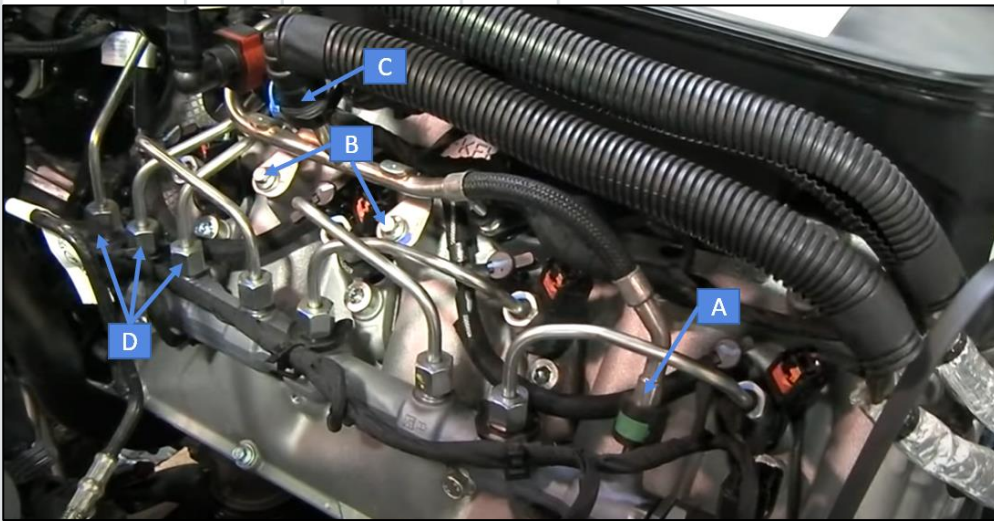
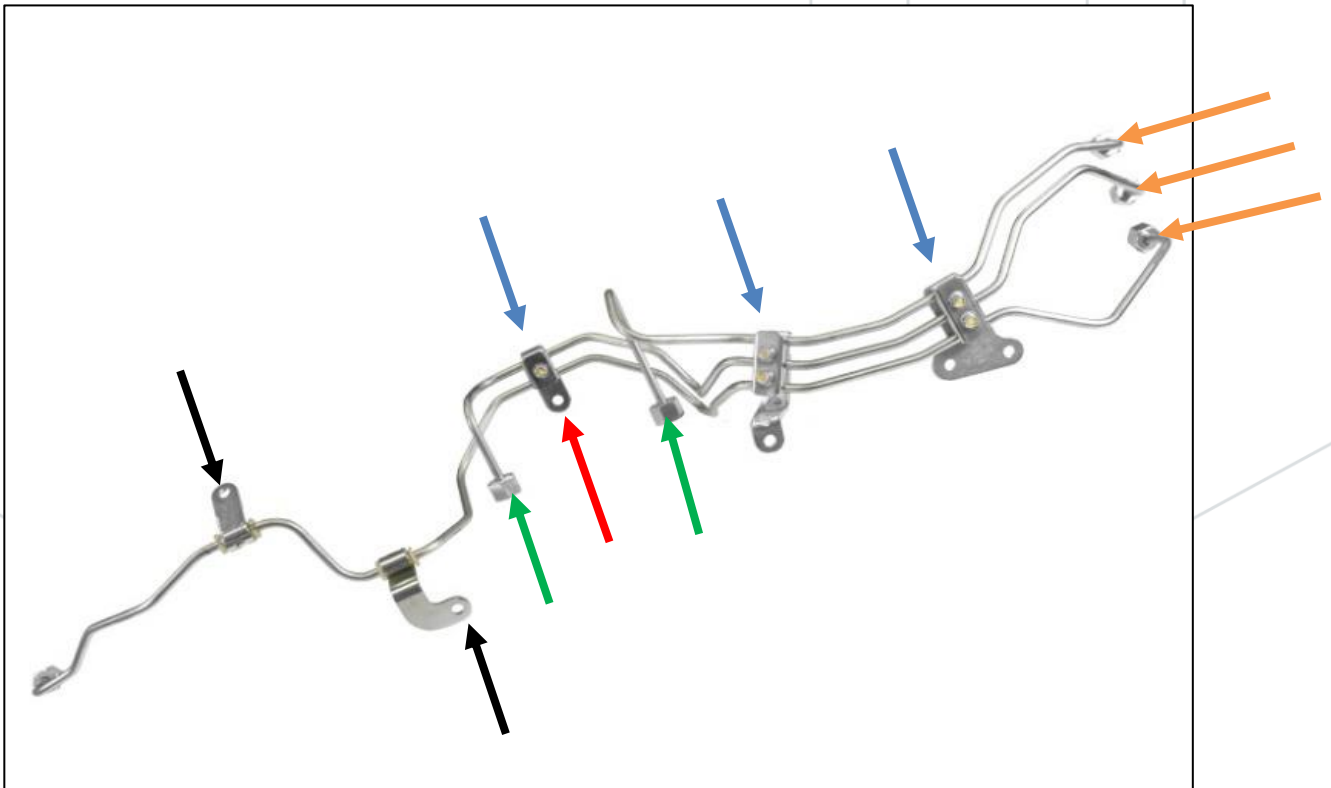

Figure 11: Fuel Line Connection Locations
Figure 19: High Pressure Line Assembly Nut and Bolt Locations
18. Referring to Figure 11 above, disconnect the low pressure return line from the fuel rail (Labeled as A).
- a. If a S&S DPK is installed, remove the return filter assembly & rotate the OEM quick-connect fitting (labeled as C in Figure 11) to the original OEM orientation, pointing downward. *(The S&S return filter assembly can remain installed with the DCR pump but S&S recommends removing it as it is not needed).*
- d. The high-pressure line assembly to fuel rail connecting nuts are labeled as D in Figure 11 and colored in orange in Figure 19.
- e. The high-pressure line assembly to CP4 pump connecting nuts are labeled as C in Figure 11 and colored in green in Figure 19.
- f. Remove the five 8mm bolts holding the saddle brackets in place on the high-pressure line assembly colored in blue and the bolt for the rail-to-rail bracket colored in red in Figure 19.
- g. Remove the rail-to-rail crossover bolts below the EGR cooler colored in black in Figure 19 to allow the crossover line to be flexed towards the turbo compressor inlet.
11. Referring to Figures 19, 26, and 28 (labeled as D), install the new high-pressure lines included in the kit.